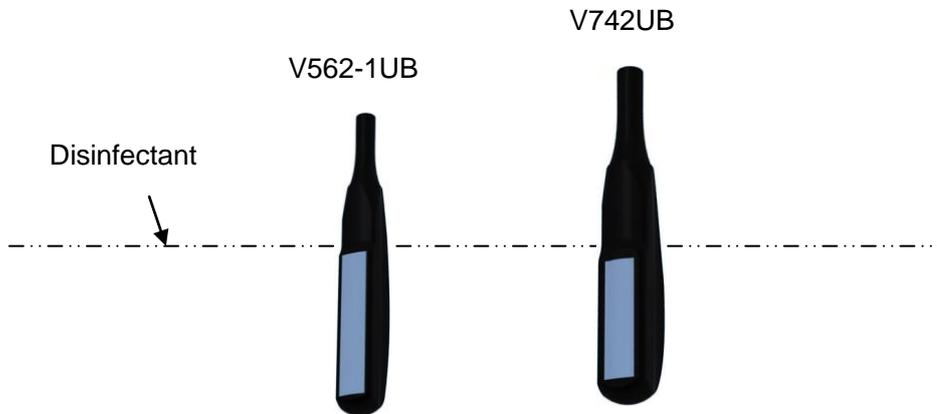

Figure 12-1 Depth of the Transducer Immersed into Disinfectant
4. Place the cleaned and dried transducer in contact with the disinfectant (refers to figure 12-1 for the contacting area) for the time specified by the disinfectant manufacturer.
7. Patient contact area should be immersed into the solution while using the immersion method, but should not exceed the depth shown in figure 12-1.